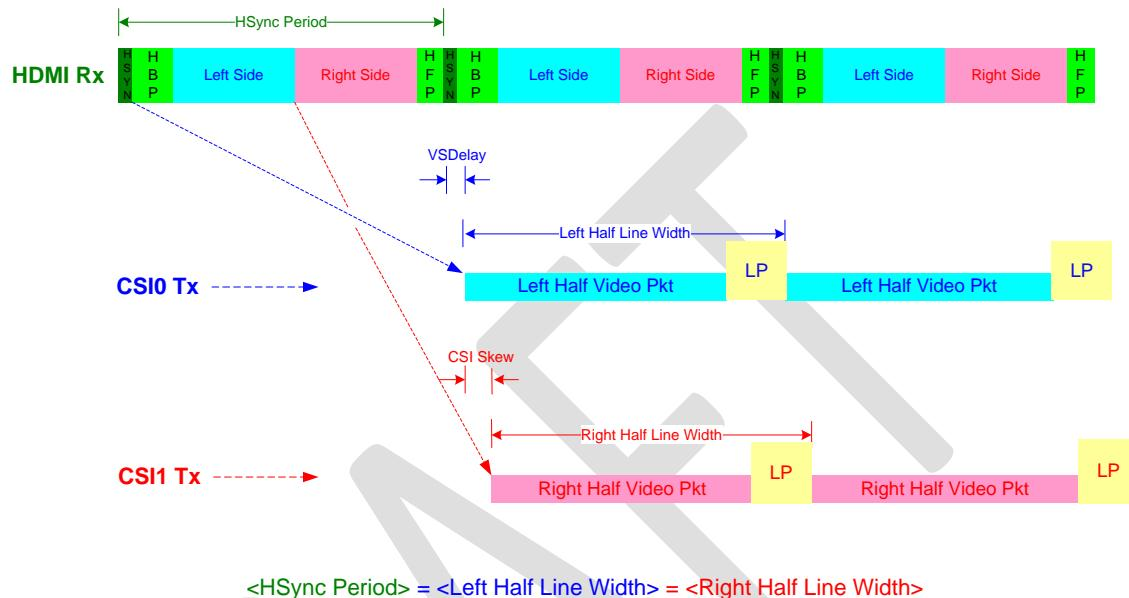
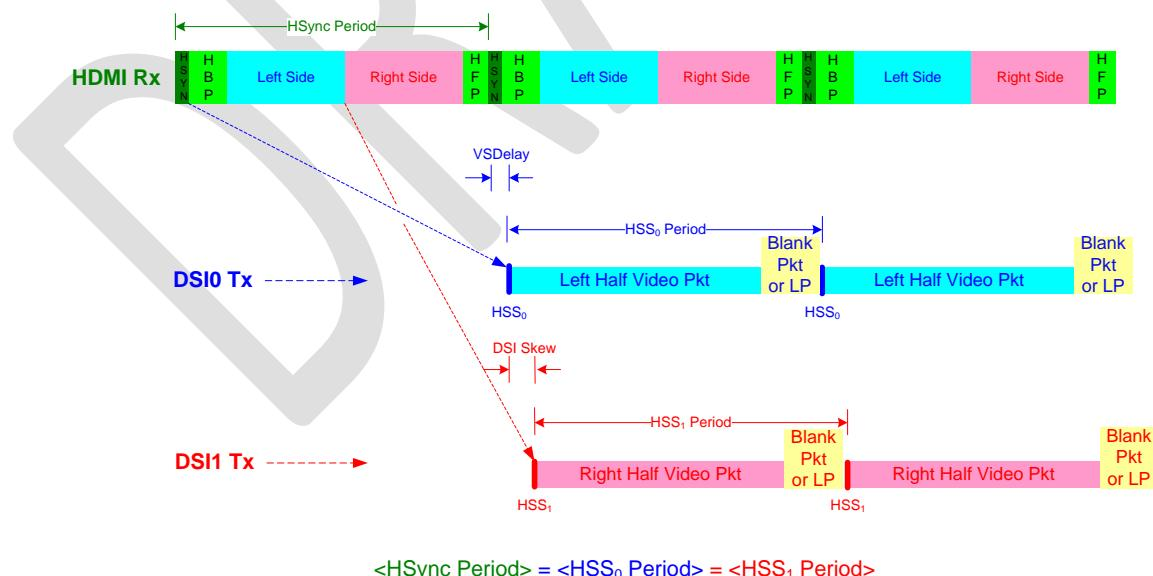

Figure 4-2 Line Splitting for Dual CSI-2 Link
Figure 4-3 Line Splitting for Dual DSI Link
5. The splitting for CSI-2 Tx and DSI Tx are shown graphically in Figure 4-2 and Figure 4-3, respectively.